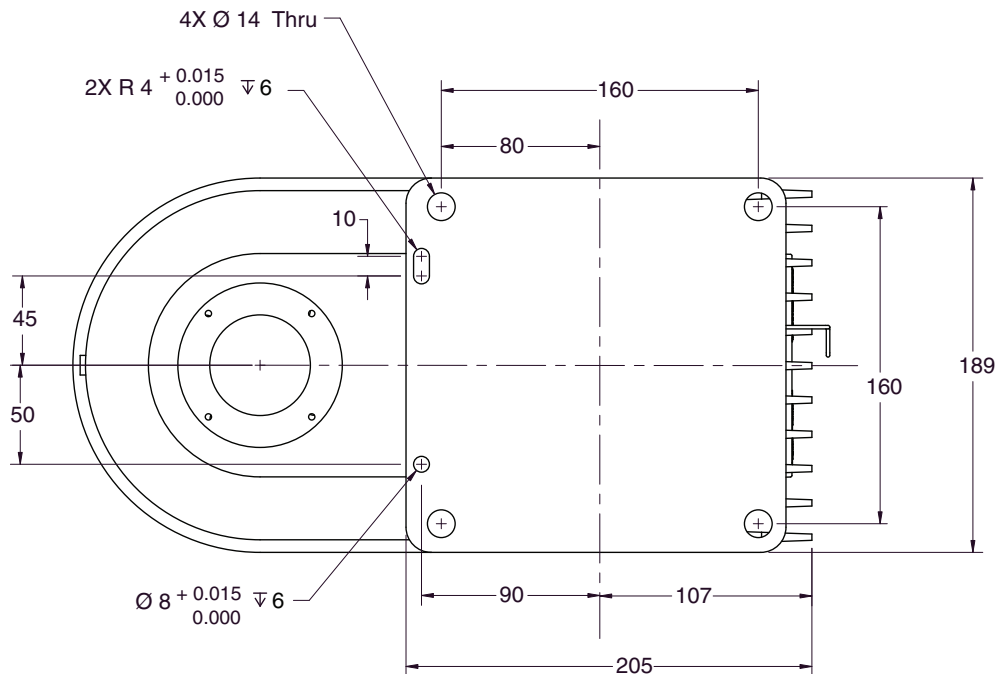

Figure 2-2. Robot Mounting Dimensions
1. Using the dimensions shown in Figure 2-2, drill and tap the mounting surface for four M12 - 1.75 x 36 mm (or 7/16 - 14 UNC x 1.50 in.) machine bolts (bolts not provided). See the previous table for bolt and torque specifications.